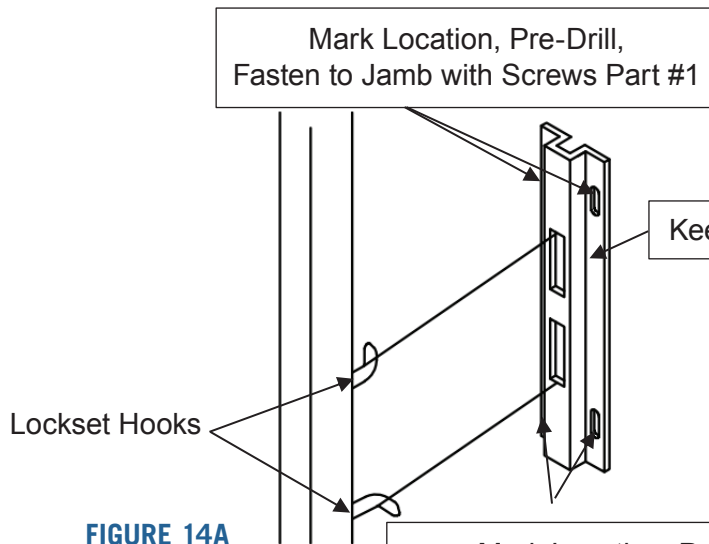
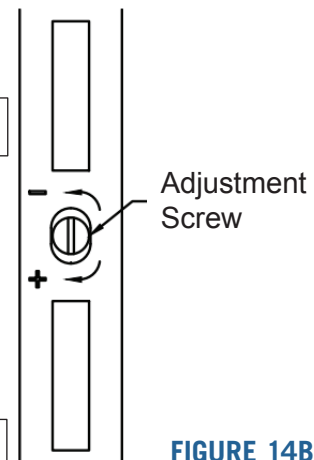

FIGURE 14A
FIGURE 14B
17. After the final roller adjustments, install the keeper (Part #8) into the lock side jamb (Part #6) by aligning with the lockset hooks on the panel and marking the location of the keeper's four screw holes onto the jamb. Next, pre-drill holes in the jamb at the marked locations using a size $\frac{1}{8}$ " - $\frac{3}{16}$ " drill bit. Lastly, fasten the keeper to the jamb with screws (Part #1) as shown in figure 14a (use sealant to lubricate screws). After the keeper has been installed, adjust the throw on the hooks of the lockset to ensure a tight fit when the door is closed and locked by turning the adjustment screw located between the hooks shown in figure 14b.